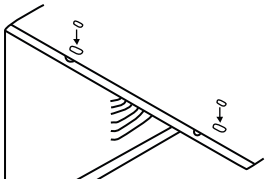

Fig.6
9. Add two foam inserts to holes in top of cabinet where shipping screws were removed from (see Fig. .6)
1. Attach foam gasket to top angle above holes as shown in Fig.6.